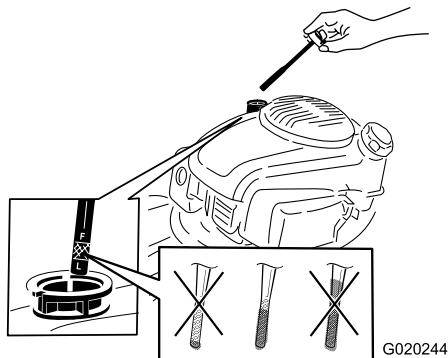

Figure 10
2. Remove the dipstick (Figure 10).
5. Read the oil level on the dipstick (Figure 10).
- If the oil level is below the Add mark on the dipstick, slowly pour a small amount of oil into the oil-fill tube, wait 3 minutes, and repeat steps 3 through 5 until the oil level is at the **Full** mark on the dipstick (Figure 10).